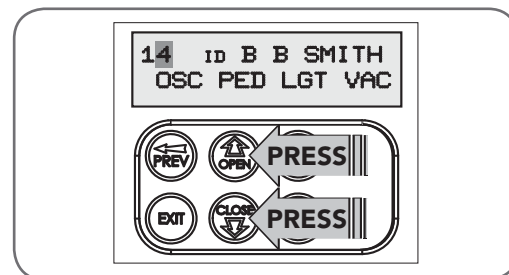

Fig H.3
- Press the UP or DOWN arrows to navigate through the list (**Fig. H.3**).